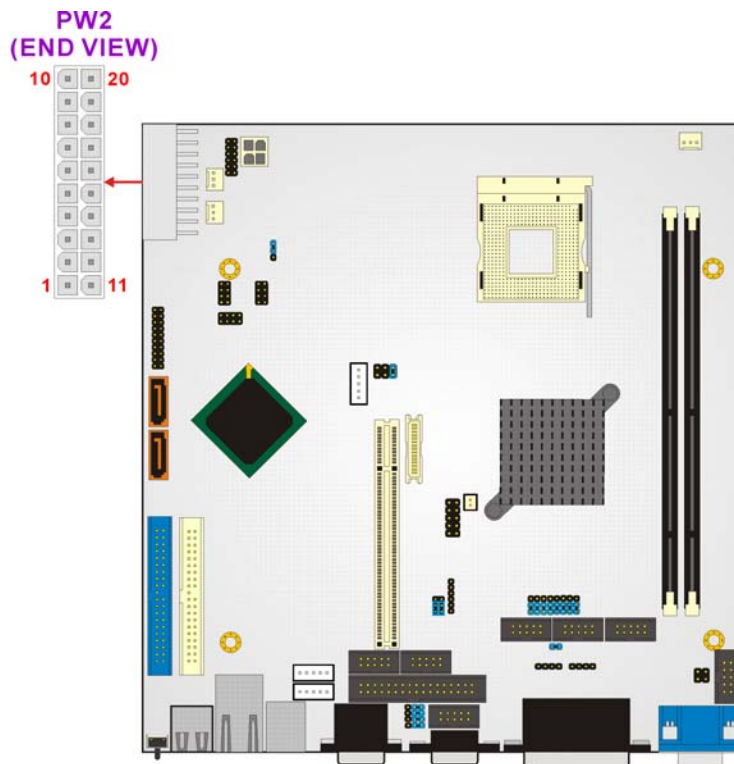

Figure 3-4: ATX Power Connector Location
- CN Location: See **Figure 3-4**